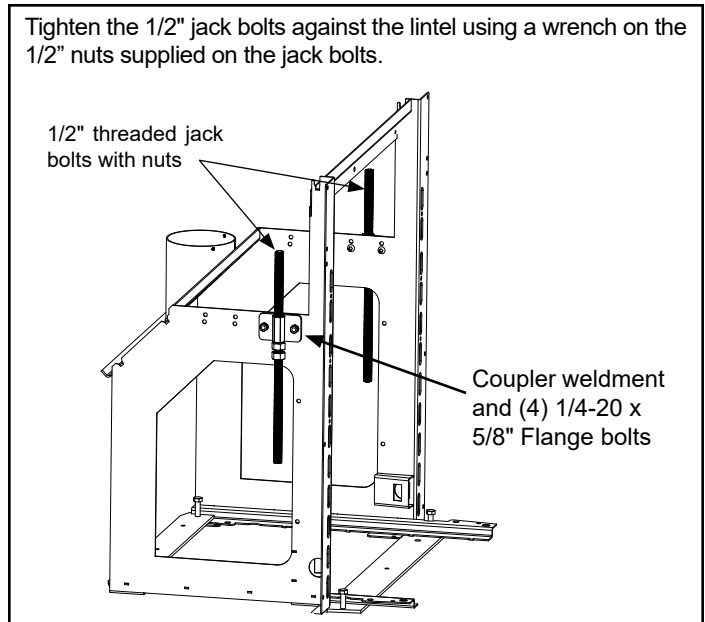

Figure 5.7 - Install jack bolts
Install the coupler nut weldments to the frame in the hole location that suits your needs with the (4) 1/4-20 x 5/8 flange screws and nuts and 1/2" jack bolts. Install the mounting frame into the opening and adjust these bolts to insure the frame is level, Figure 5.7.